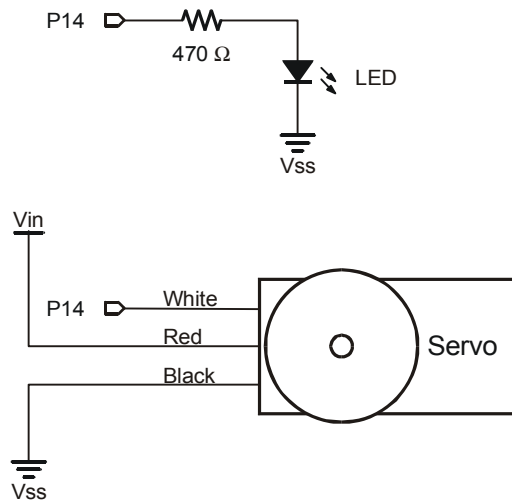
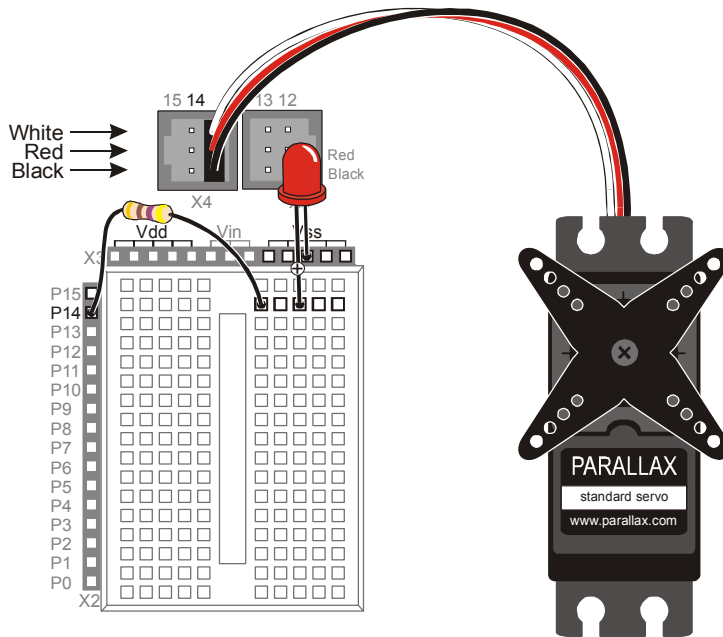

Figure 5
Figure 6
Figure 5 shows the schematic for the servo and LED circuits on the Board of Education Rev B. The instructions that come after this figure will show you how to safely build this circuit on your Board of Education Rev B.
- ✓ Build the LED and servo circuits shown in Figure 5, using Figure 6 as your guide.